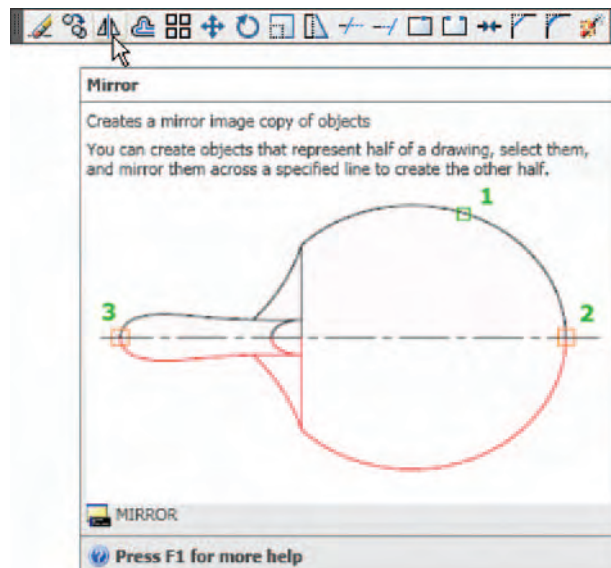

Fig. 5.7 The Mirror tool from the Modify toolbar
2. Call the **Mirror** tool – *left-click* on its tool icon in the **Home/Modify** panel (Fig. 5.7), *pick* the **Mirror** tool icon from the **Modify** toolbar, *pick* **Mirror** from the **Modify** drop-down menu, or *enter* **mi** or **mirror** at the command line. The command line shows: